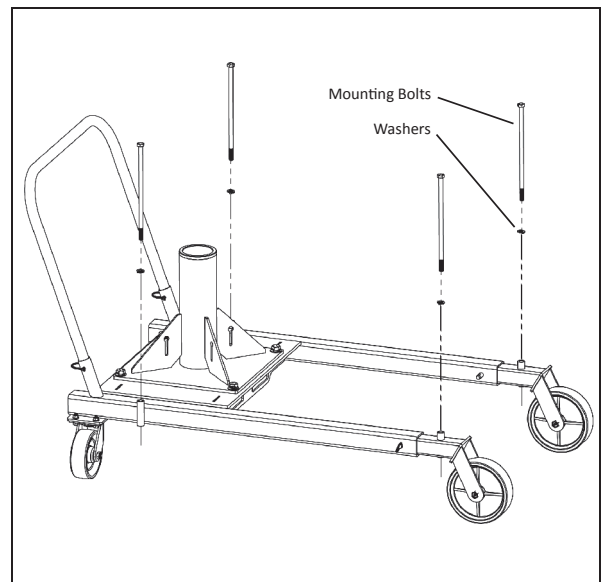

Figure 10.2
5. Install four (4) supplied bolts and four (4) washers through the anchor point tubes and torque to twenty (20) foot-pounds. See Figure 10.2.